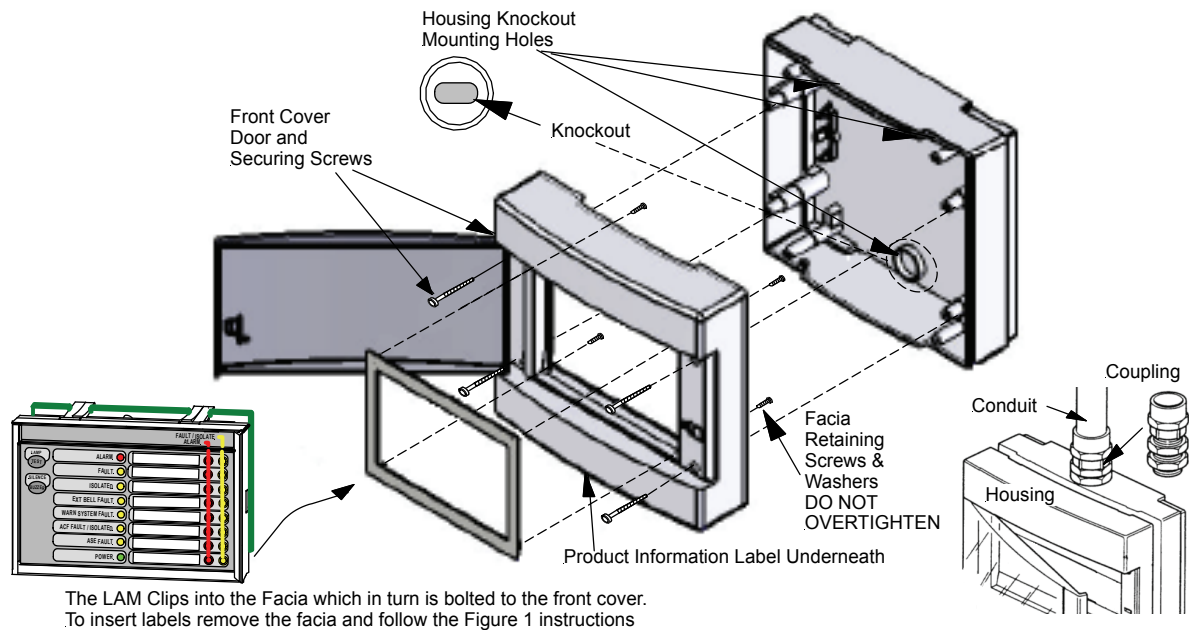

Figure 3: General Wiring Diagram
6. See *Figure 3* for information on inserting the termination link LK1 on the last card in the chain
8. Terminate the cabling from the FACP to the LAM as shown in *Figure 3*